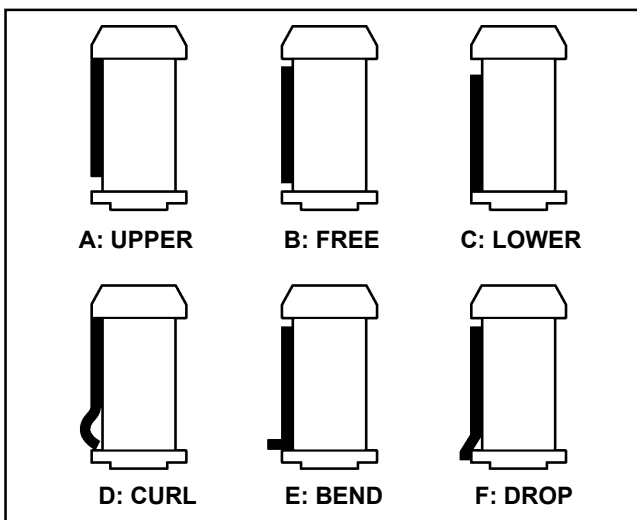

Figure 3-12-1
2. Confirm that the tape path is not the condition of D, E and F as shown in figure 3-12-1.